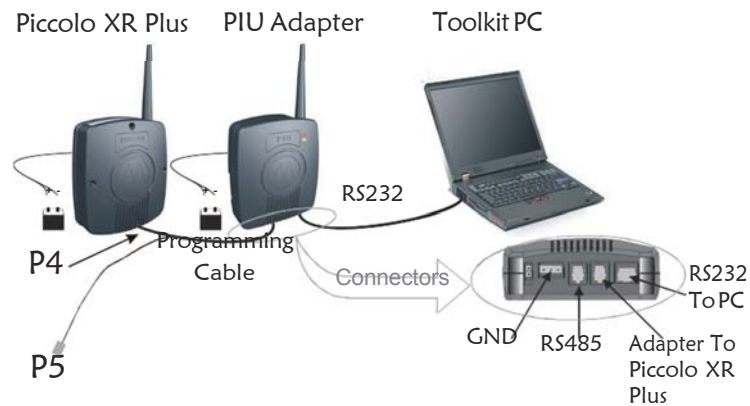

Figure 21
1. Connect the PIU adapter RS232 port to the computer using the FKN6597B cable (see Figure 21).